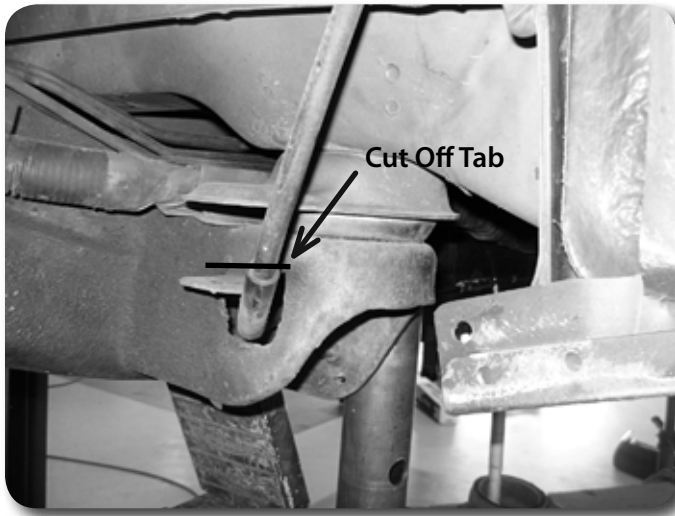

Figure 7
14. On the driver's side frame rail just below the driver's side door locate the parking brake cable where it goes through the body mount support. Cut off the tab above the parking brake cable using a cutoff wheel or plasma cutter Figures 7 & 8.